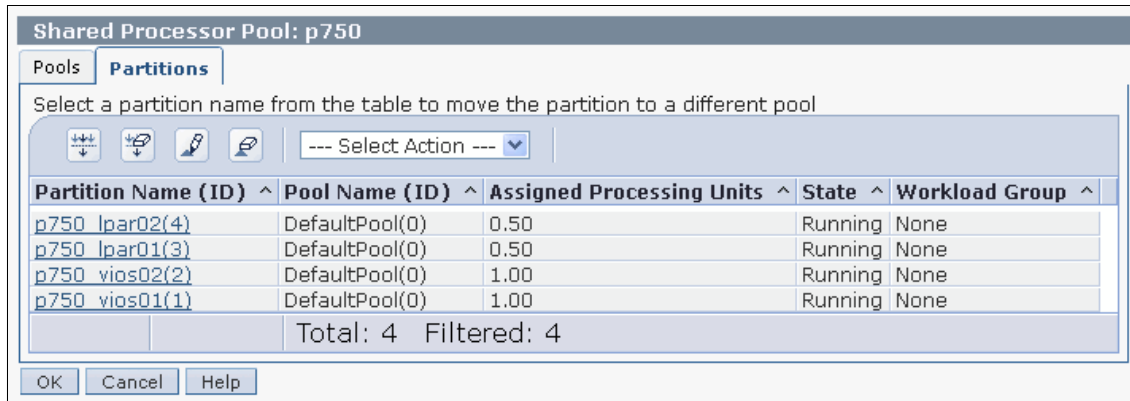

Figure 14-4 Virtual Shared-Processor Pool partition tab
4. Change to the **Partitions** tab as shown in Figure 14-4 to perform partition assignments. Click each partition that you want to reassign.
Tip: Partitions that have not been activated since they were created do not show up in the window with available partitions like the one shown in Figure 14-4. To change the assignment of a partition that has never been activated to another Shared-Processor Pool, you have to update the Shared-Processor Pool attribute, which can be found in the Processors tab of the partition profile.